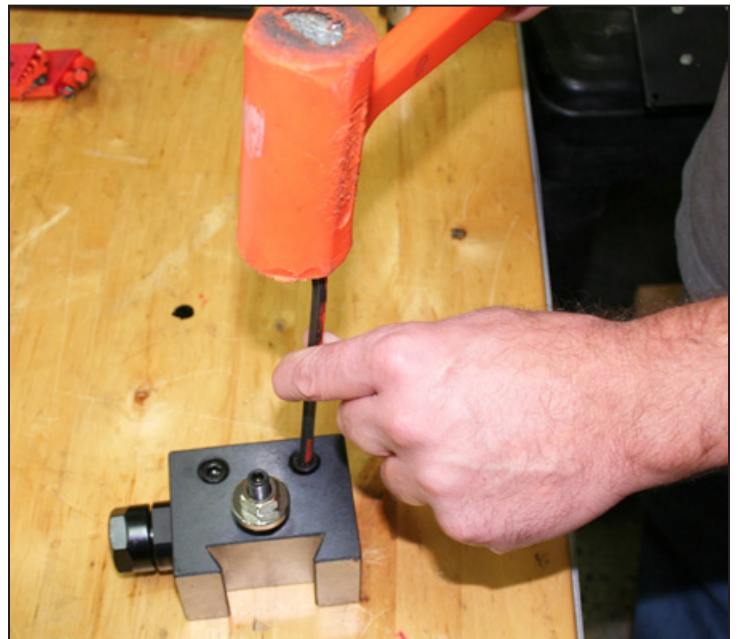

Figure 14
4. Tap both hex-head cap screws with dead-blow hammer to release tool (see **Figure 14**).